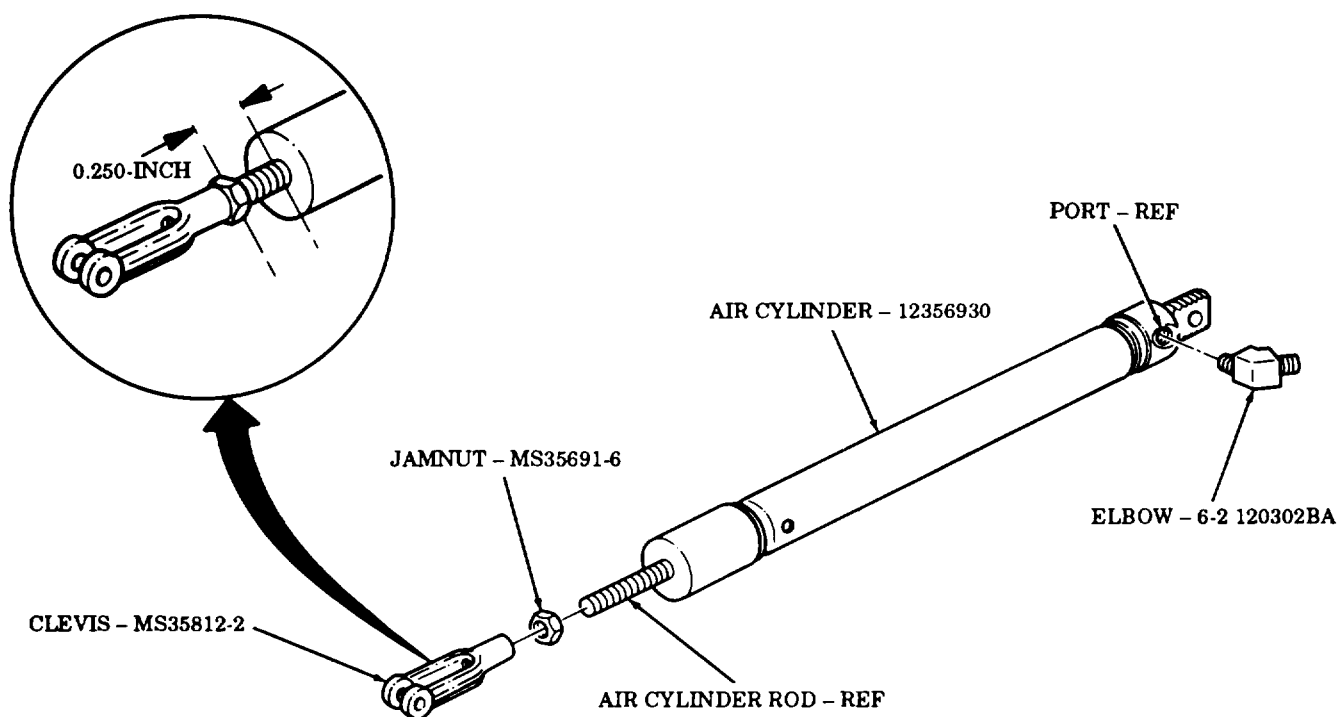

FIGURE 7
- (2) Apply 12302758 pipe sealant to threads of 6-2 120302BA elbow and install elbow (6-2 120302BA) in port of 12356930 air cylinder as shown in figure 7.
- (3) Install MS35691-6 jamnut and MS35812-2 clevis on air cylinder rod. Leave a 0.250-inch gap between jamnut (MS35691-6) and air cylinder (12356930) as shown in figure 7. Tighten jam nut against clevis 10 lb-ft (14 N·m).